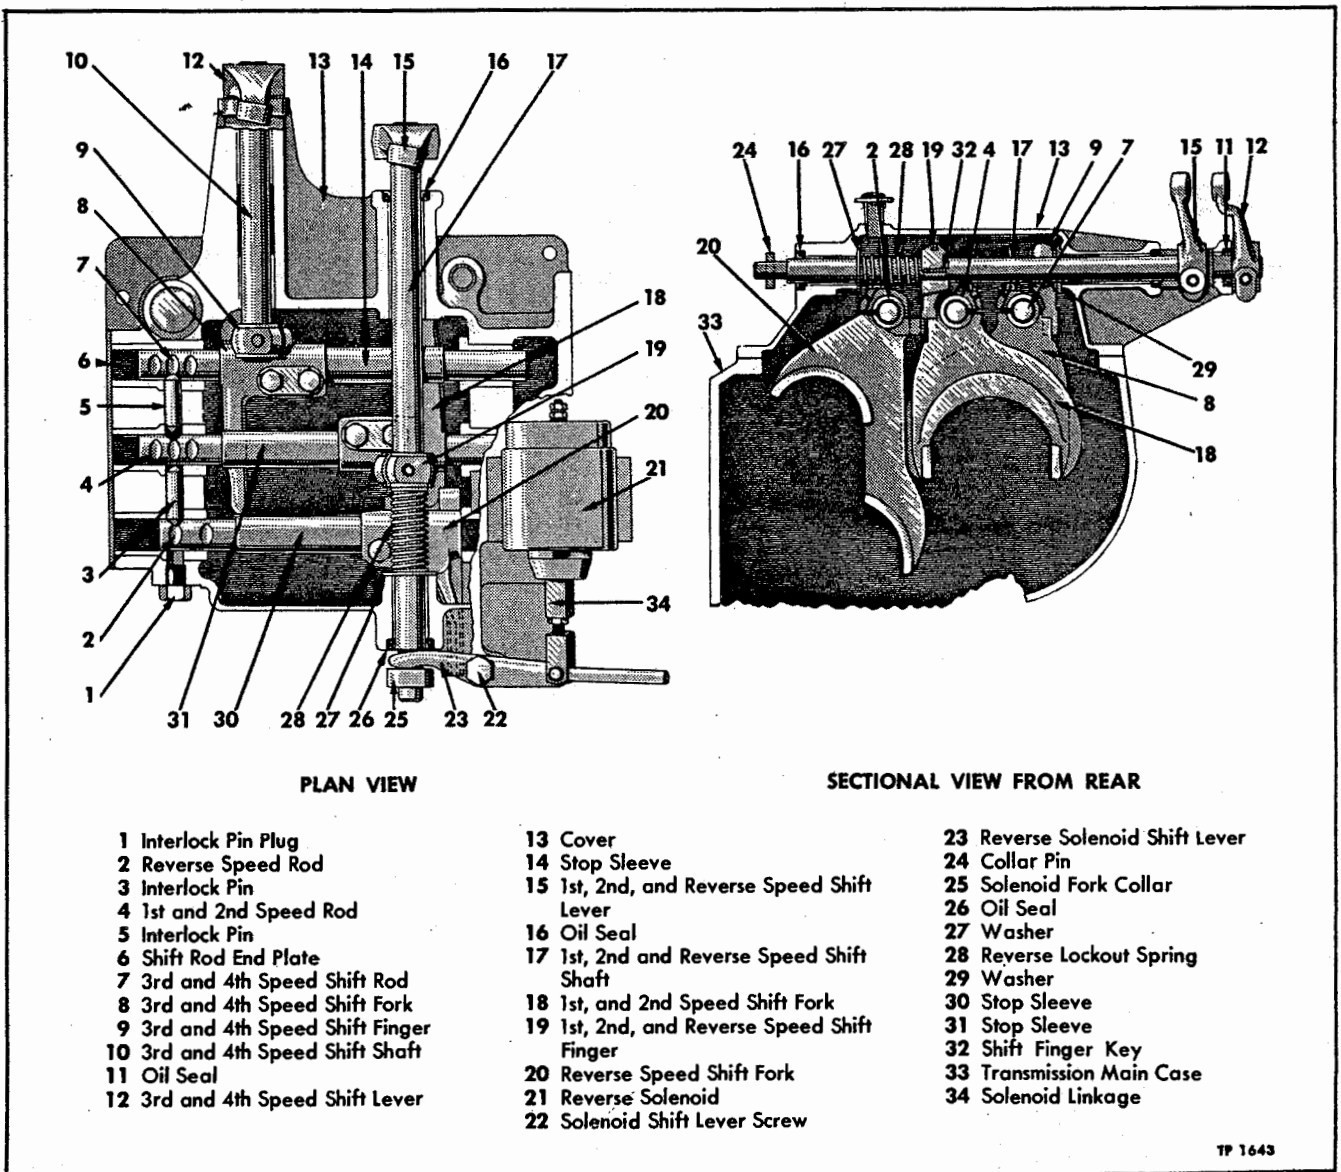

Figure 7—Transmission Cover and Shifting Mechanism
Key numbers in text refer to figure 7, unless otherwise indicated.
Key numbers in text refer to figure 7.
1. Install first, second and reverse shaft (17) and lever (15) into cover (13), assembling shift finger key, shift finger (19), finger clamp screw, washer (29), reverse lock-out spring (28) and washer (27) as shaft is moved into position. Refer to figure 7 for position and relation of parts.
2. Install solenoid shift lever collar (25), and pin (24) in end of shaft.
3. Install third and fourth speed shift shaft (10) and lever (12) into cover and assemble finger key, shift finger (9) and clamp screw.